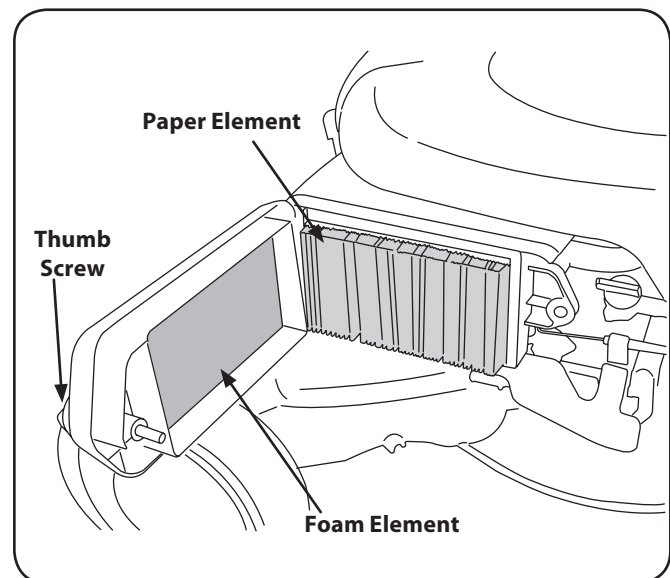

Figure 6-2
1. Remove the thumb screw and the air filter cover. Remove the foam and paper elements. See Figure 6-2. Replace paper element when dirty or damaged. Clean foam element or replace when damaged.